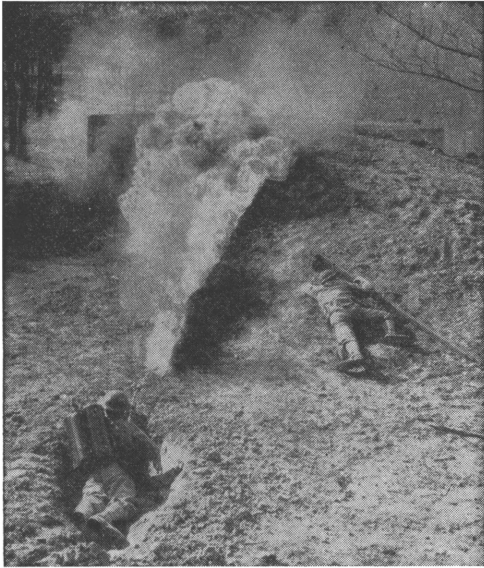
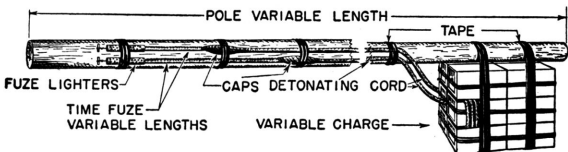

FIGURE 112.—Engineers assaulting a fortified emplacement.
FIGURE 113.—Charge-placing pole, improvised charge.
b. The forward element of the assault detachment has two main parts: flamethrowers, who get close to the pillbox and blind its occupants with fire and smoke (see fig. 112); and charge placers, who rush to the fortification and thrust into the weak spots of the fort (doors and embrasure openings) TNT attached to the end of long poles. (See fig. 113.)